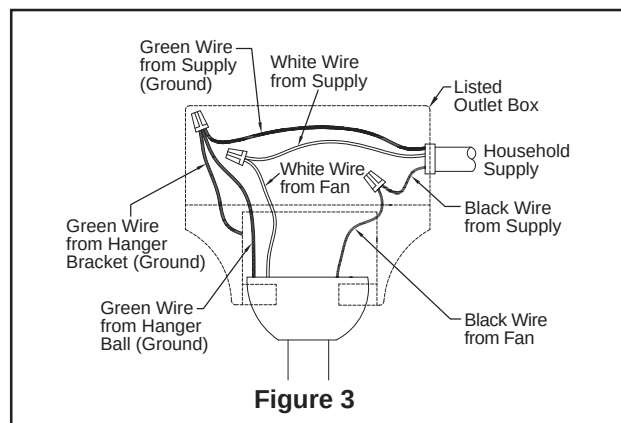

Figure 3
2. After connections have been made, turn leads upward and carefully push leads into the outlet box, with the white and green leads to one side of the box and the black leads toward the other side. (Figure 3)